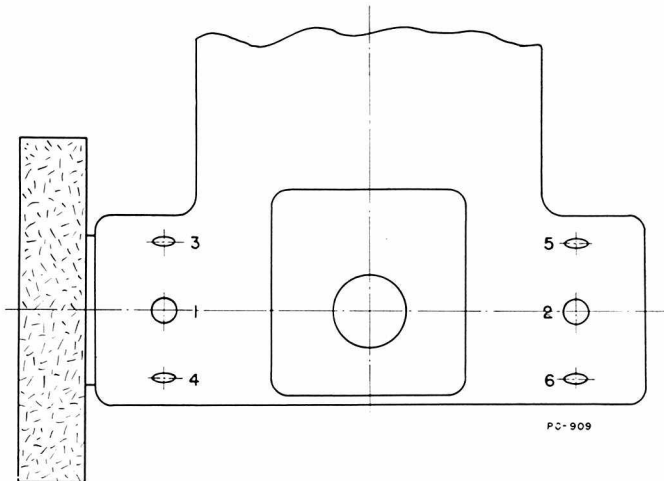

Figure 34
5. Adjust the six screws "D" or "F", as the case may be, in the order (1 and 2) simultaneously, (5 and 6) simultaneously, and (3 and 4) simultaneously (Figure 34). This order of adjustment must be adhered to. A snug adjustment of the screws is sufficient; do not apply too much force.